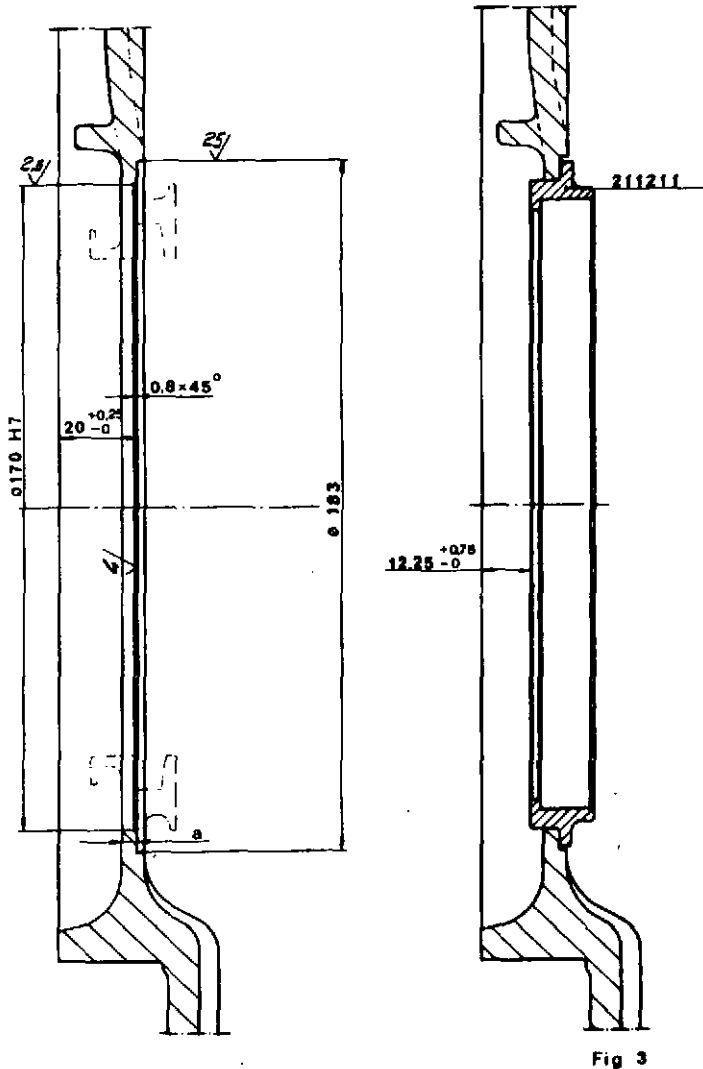

Fig 3
1. Check the flywheel housing concerning thickness of material, (see fig. 3). The thickness must be a min. of 4 mm, after turning, in order that the flywheel housing can be used.
2. Turn out the housing according to fig. 3.